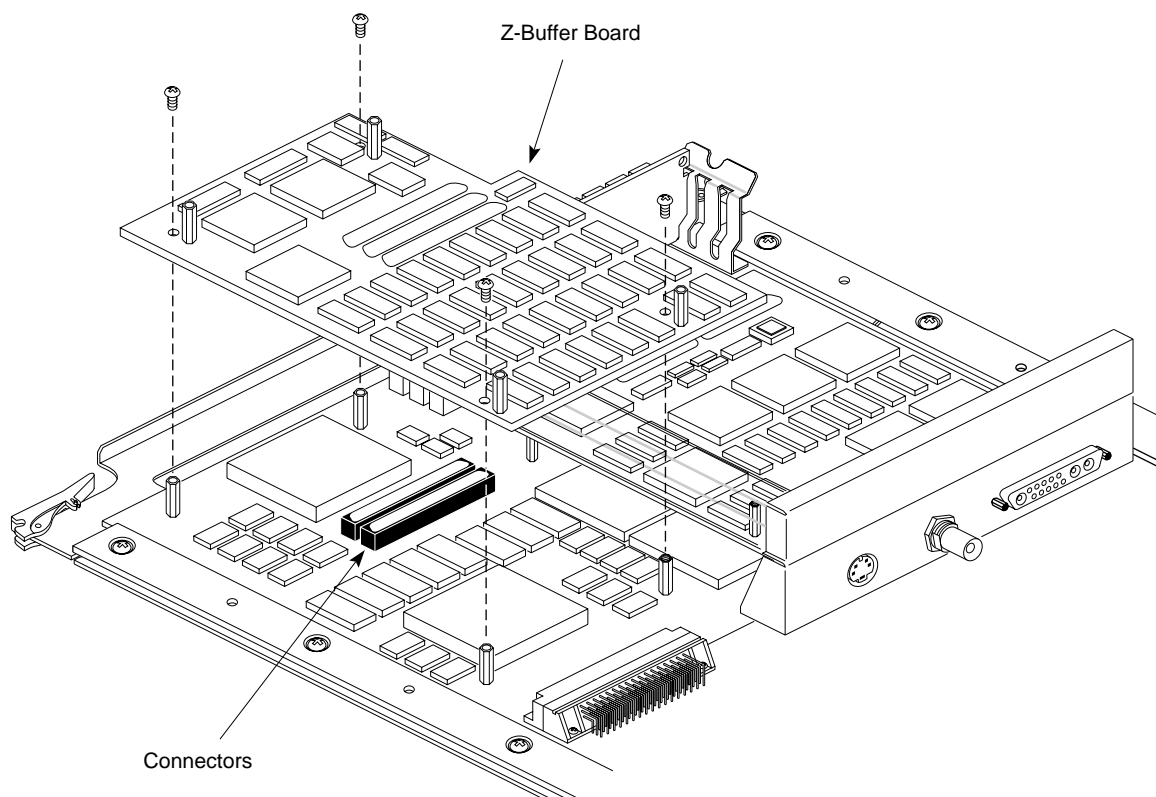

Figure 3-8 Installing the Z-buffer Board
5. Align the four screw holes in the z-buffer board with the four metal posts on the graphics board, as shown in Figure 3-8. By lining up the screw holes with the posts, the connectors underneath the board should line up automatically.